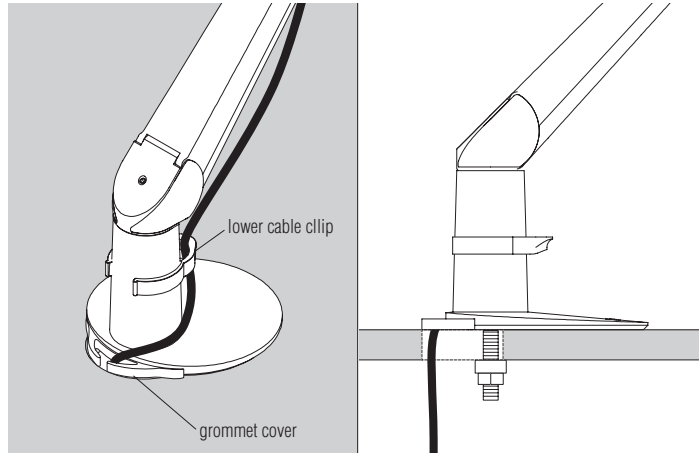

Figure 13
9. For grommet-mounted applications, monitor wires can be clipped in place at the base stem, then routed down through grommet cover, through hole in the worksurface (Figure 13).